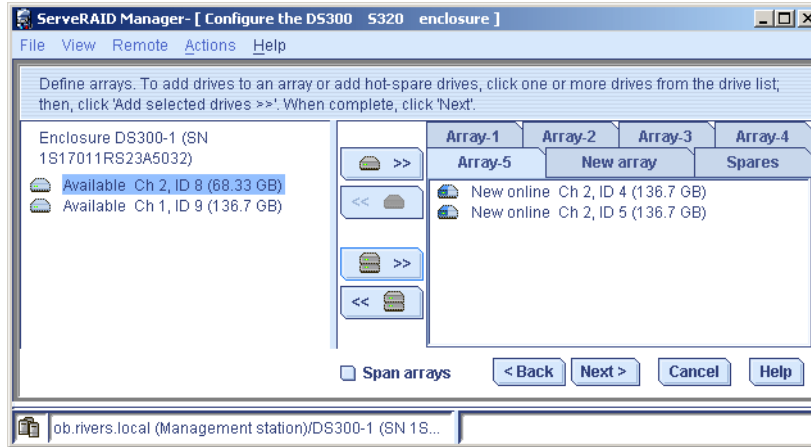

Figure 4-64 Array-5 with two drives
9. Create two more arrays with only two drives in each. Use the drives with ID 2 and 3 in Array-4 and drives with ID 4 and 5 in Array-5. This arrays will be used together to build a spanned array with a RAID level 10. Refer to the previous steps on how to add drives. The final results are shown in Figure 4-64 on page 119.